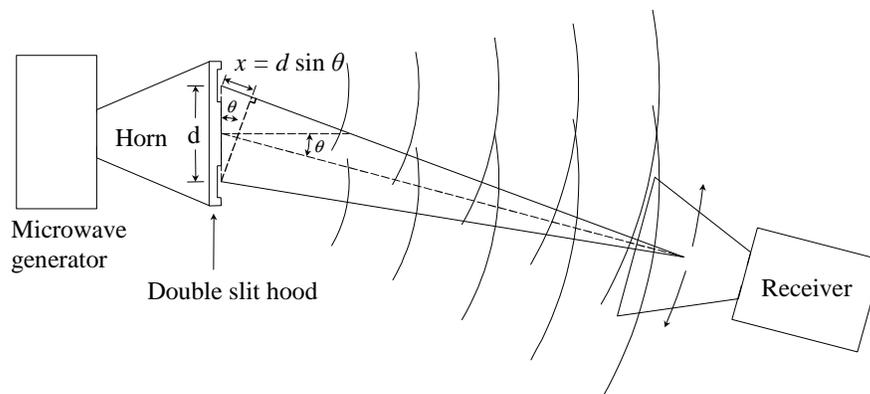

Figure 8
1. Slide the double slit hood over the *generator's* horn, creating two coherent microwave sources as shown schematically in Figure 8.